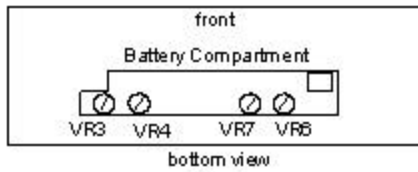

Fig. 2
- 8.3 Place the sensor head into a 33% calibration reference solution. Wait for a stable reading (up to 30 min). Adjust VR3 (see Fig.2) until the display shows 33.0.
- 8.4 Place the sensor head into a 75% calibration reference solution. Wait for a stable reading (up to 30 min). Adjust VR4 (Fig. 2) until the display shows 75.0.